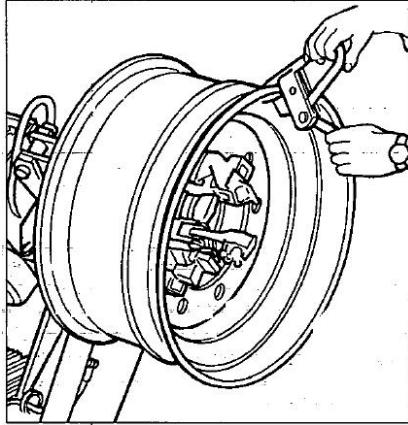

Fig.7.8
3) Attach the PC clip to the outside edge of the rim at the highest (See Fig. 7.8)
- 3) Attach the PC clip to the outside edge of the rim at the highest point (See Fig.7.8).